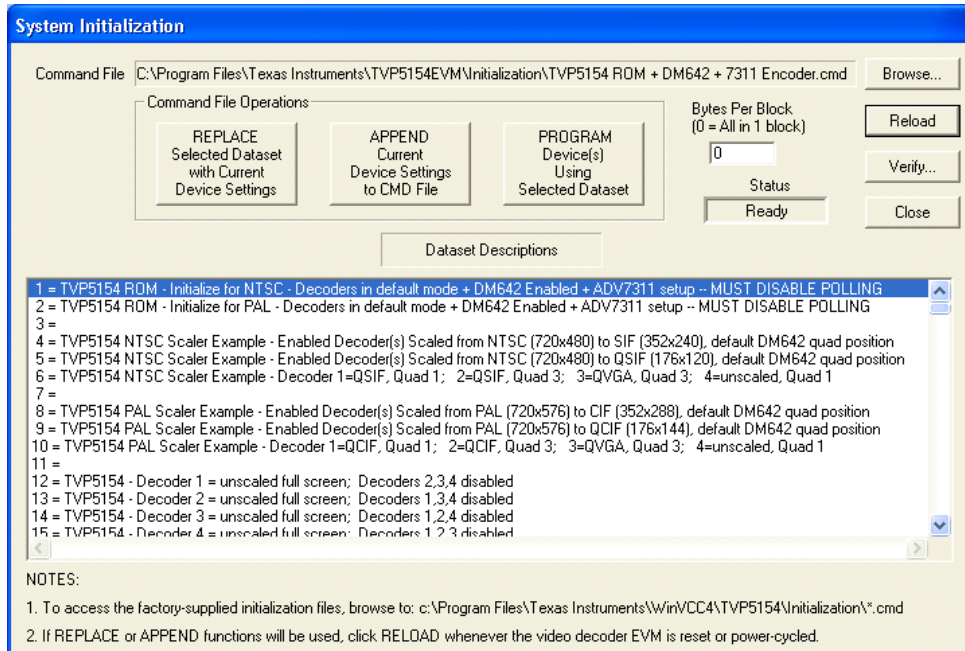

Figure 8. WinVCC – System Initialization
- In the System Initialization Window (see Figure 8), click the "TVP5154 ROM – Initialize for NTSC..." or "TVP5154 ROM – Initialize for PAL..." dataset in the window and then click the PROGRAM Device(s) Using Selected Dataset button to initialize the TVP5154EVM.